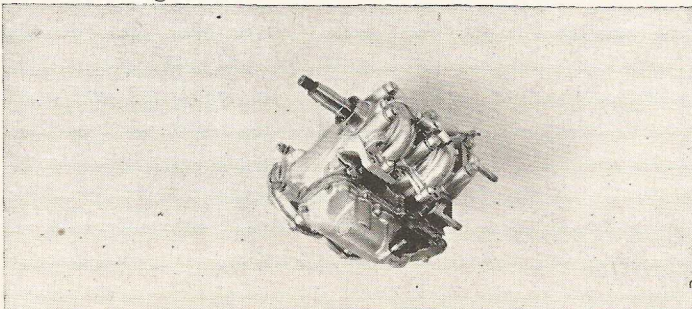

Fig. 42
5. Complete assembly by installing gaskets, muffler-manifold assembly and cylinder head, — as illustrated Fig. 42.